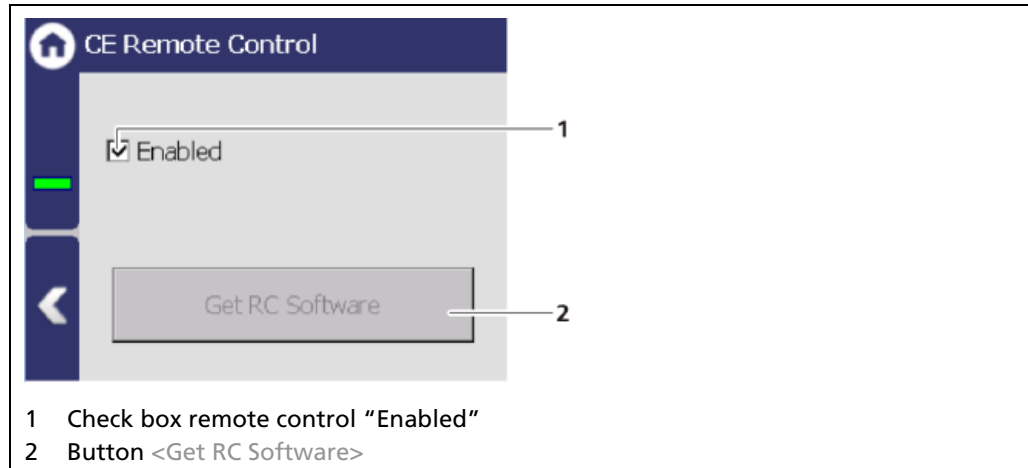

Fig. 37 Remote Control
By activating (Fig. 37, item 1) the CE Remote Control, the unit can be operated via the network connection. The software of the remote control (RC software) is stored on the device and can be copied to a USB storage device.
- ▶ The USB storage device is recognized by the system after a few seconds and the button <Get RC software> (Fig. 37, item 2) can be clicked.
2. Click on the button <Get RC software> (Fig. 37, item 2).
In order for the Remote Control to function, the selection check mark in the menu "CE Remote Control" must be set to "Active" (Fig. 37, item 1).